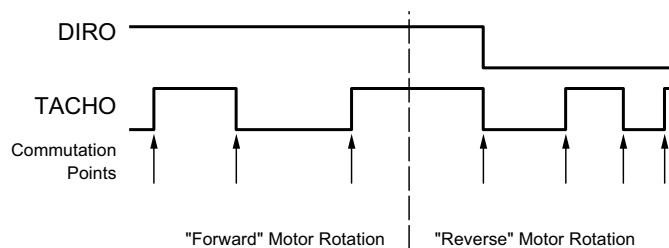

Figure 1: Direction Indication Outputs
**TACHO and DIRO.** These outputs provide speed and direction information based on the HE inputs from the motor. As shown in Figure 1, at each commutation point, the TACHO output changes state independent of motor direction. The DIRO output is updated at each commutation point to show the motor direction. When the motor is rotating in the “forward” or positive direction, DIRO will be high. When rotation is in the “reverse” or negative direction, DIRO will be low. The actual direction of rotation is determined from the sequence of the three Hall inputs,  $H_x$ . Forward is when the sequence follows Table 2 top-to-bottom and reverse when the sequence follows Table 2 bottom-to-top.